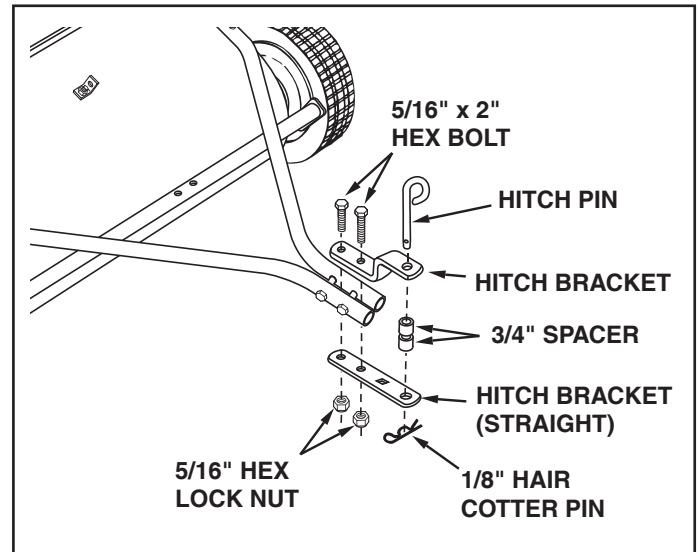
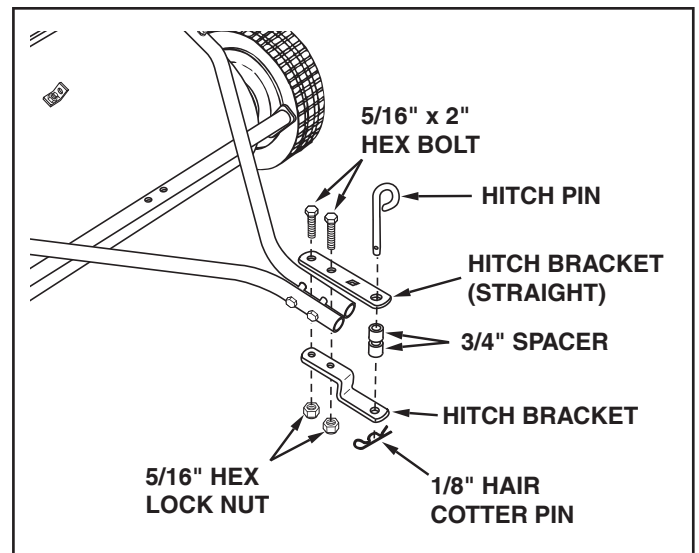

FIGURE 4
FIGURE 5
**If your tractor hitch has 10" to 13" ground clearance refer to figure 4. If your tractor hitch has 8" to 10" ground clearance refer to figure 5.**
- Assemble the hitch brackets to the hitch tubes using two 5/16" x 2" hex bolts and 5/16" hex lock nuts. The bolts should straddle the front hitch tube bolt. **Do not tighten yet.** See figure 4 or 5.
- Assemble the hitch pin, two 3/4" spacers and the 1/8" hair cotter pin to the hitch brackets. See figure 4 or 5.